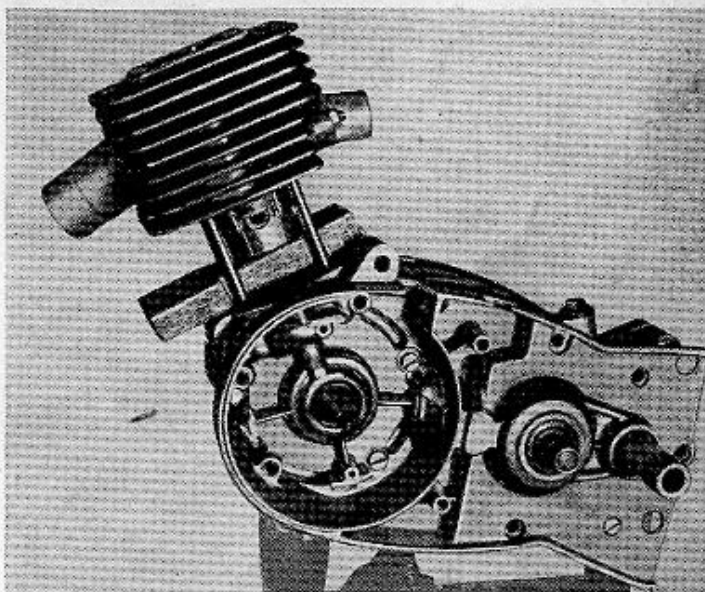

Fig. 67
**Note:** The locating pin in the piston ring groove must sit inside the ring joint. Fit cylinder head gasket and cylinder head. Fit 4 packing washers, then tighten the 4 nuts, M7, with 11-mm socket wrench, working always on diagonally opposite nuts in turn; torque 10.6 lb-ft. (1.5 mkg., see fig. 67).